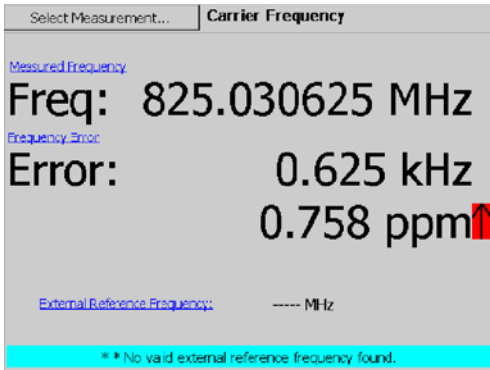

Figure 3-44: A Carrier Frequency display
4. Tap **Carrier Frequency**. See Figure 3-44.